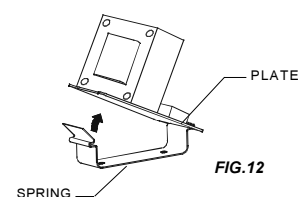

FIG. 12
3. Remove the plate from the ceiling, disconnect the wiring, and change the transformer. (Fig.12)
4. Complete the connections following the wiring diagram (fig.7). Reinstall the plate onto the spring. (Fig.12)